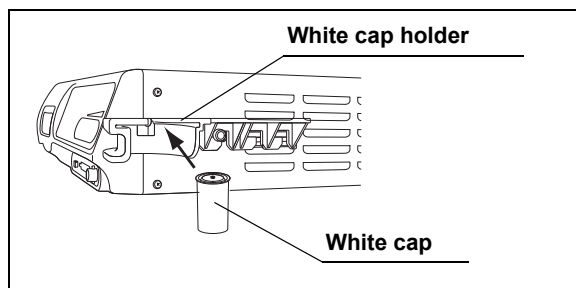

Figure 8.8
3. Insert the disk part at the top of the white cap into the ditches on the opening of the white cap holder until it clicks (see Figure 8.8).